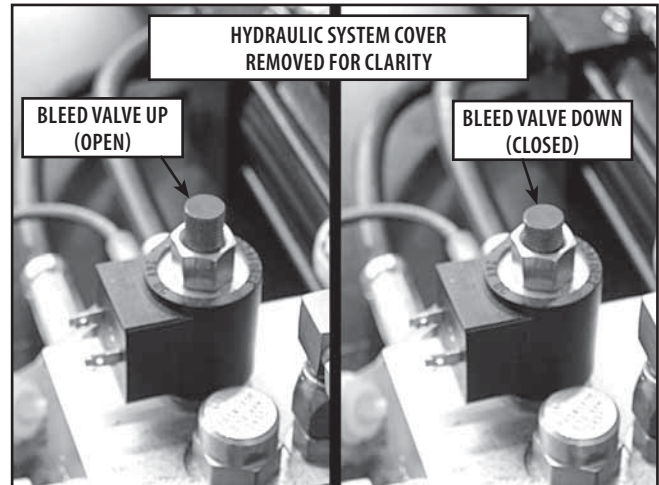

FIGURE 5.20
2. Push Red Bleed Valve down and rotate 1/2 revolution counterclockwise. the Red Valve Stem will rise up to the open position. See Figure 5.20.
3. Lower the table. After table is in the fully horizontal position, push the Red Bleed Valve down and rotate 1/2 revolution clockwise. The Red Valve Stem will lock in the closed position. See Figure 5.20.